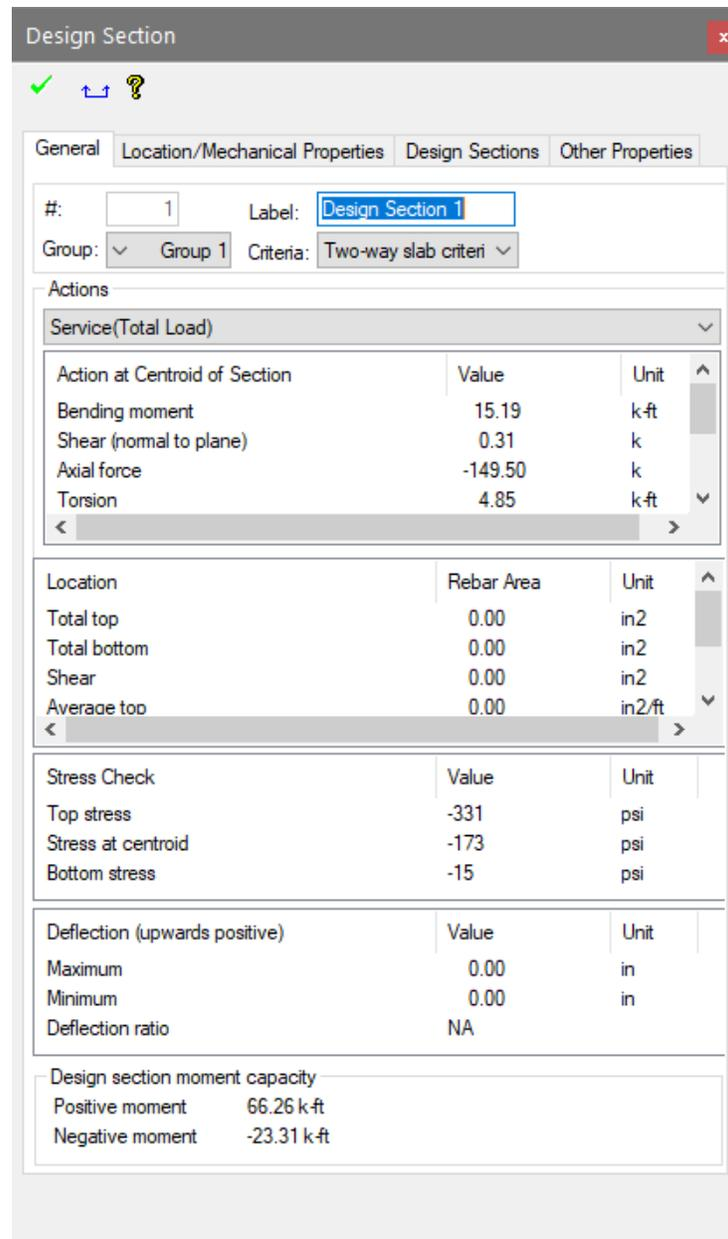

Figure 7.5-3 - Window of Design Values for Manual Cut
- Once the operation is complete, double-click on the cut to open up its property box (**Fig. 7.5-3**). This table lists the results of the forces acting on the cut, reduced to six actions (three forces and three moments) and expressed at the centroid of the cut, reinforcement required, and the deflection ratio (N/A to strength combinations for the load combination selected at the top of the *Actions* section. The sections moment capacity and demand are given in the window as well.